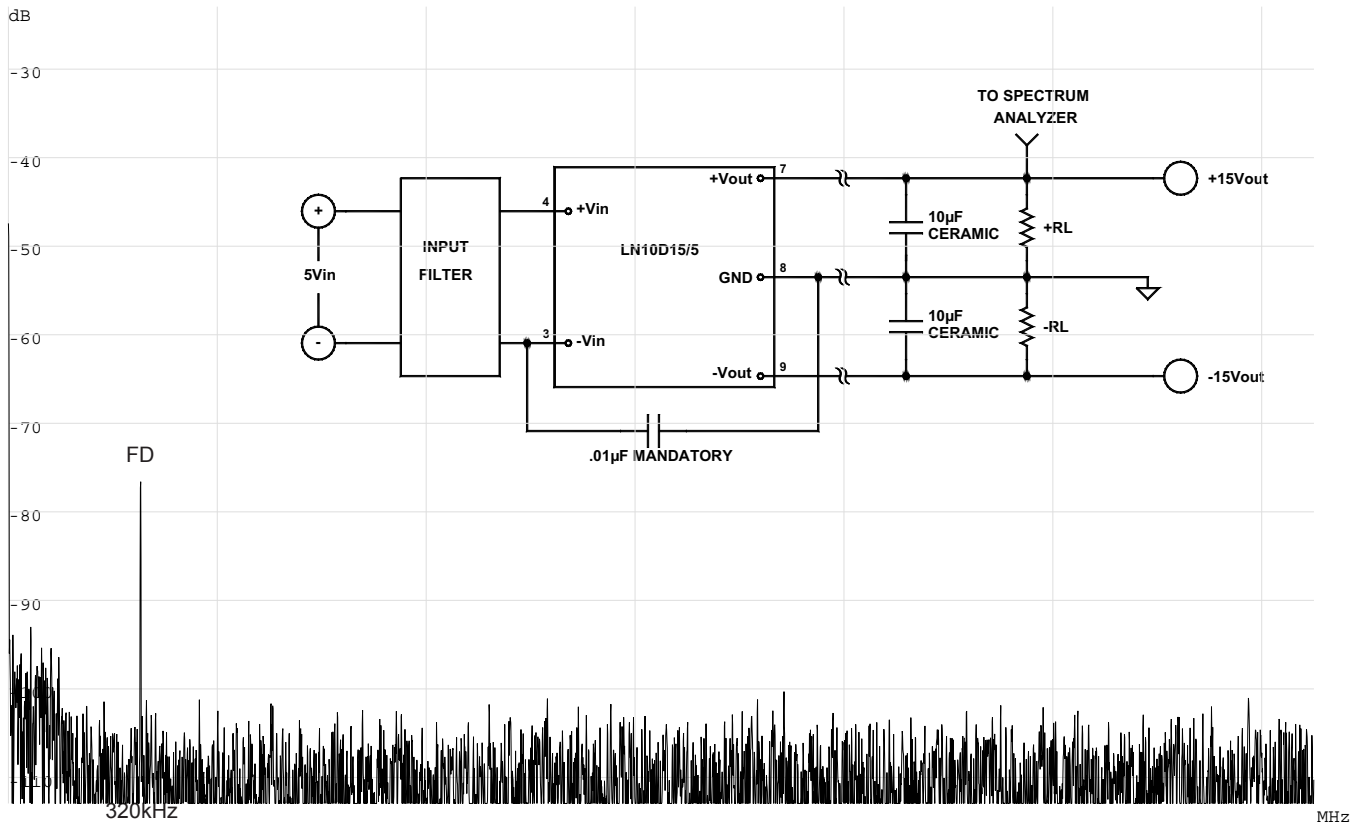

FIGURE 5. Setup and reading for output voltage noise spectrum
- 7 Measured without external filter. When the recommended filter is used, a reduction by a factor of 5 or more is achieved. See Figure 5.